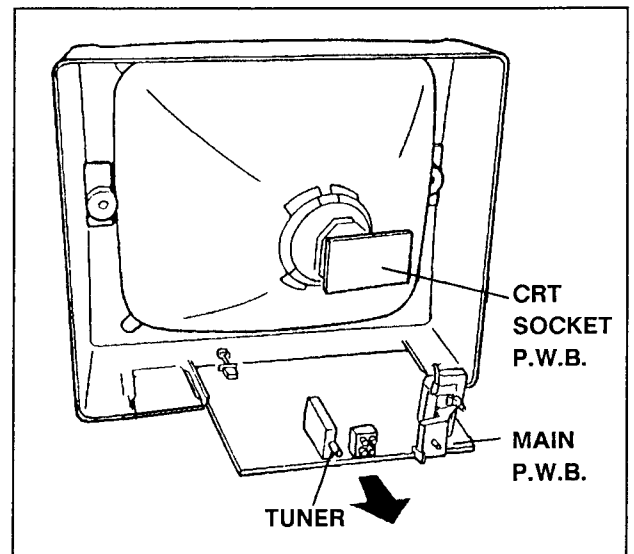

Fig. 2
1. Withdraw the MAIN P.W.board backward along the rail. (Fig. 2)